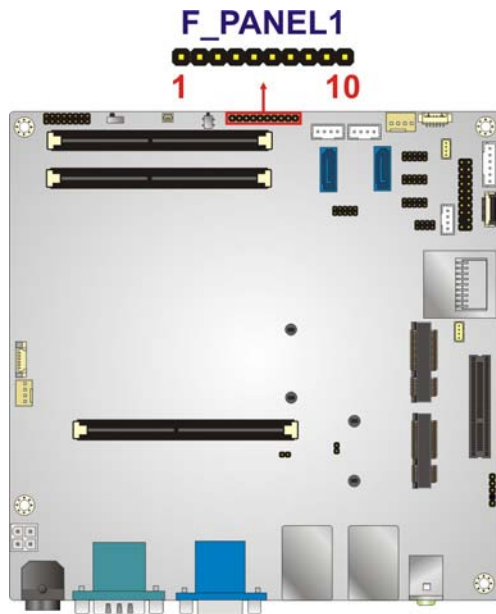

Figure 3-10: Front Panel Connector Location
- CN Location: See **Figure 3-10**